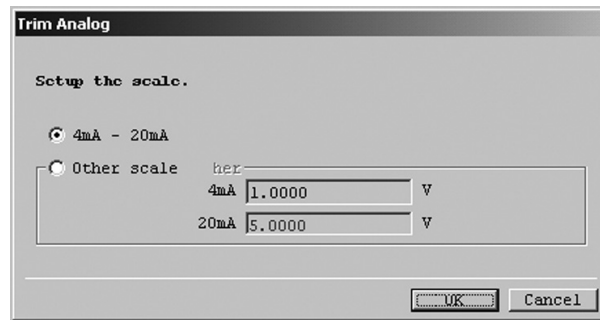
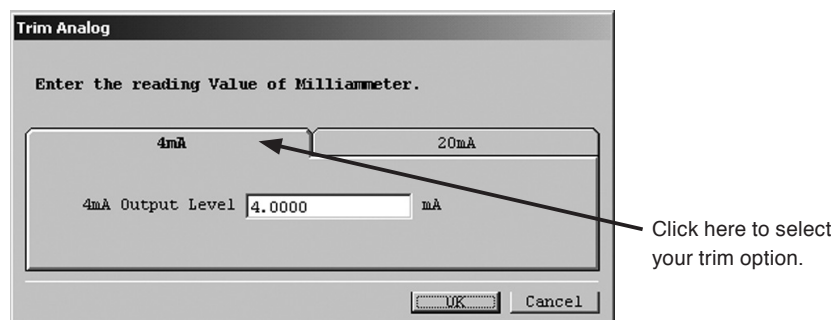

Fig.74
Fig.75
- ③ A window like the one shown in Fig. 74 appears. Select either "4-20mA" scale or "Other scale" for Analog trim, and click on "OK".
- ④ At the window in Fig. 74, select "4mA-20mA" and click on "OK". A window as shown in Fig. 75 then appears, readying for selecting the 4mA or 20mA trim. Make the 4mA trim here, followed by the 20mA trim. Enter the ammeter reading of the current output and click on "OK" button.
- ⑤ To trim the 20mA, click on the 20mA at the message box shown in Fig. 75. Similar to the 4mA trim, make an adjustment until the ammeter connected reads 20mA.